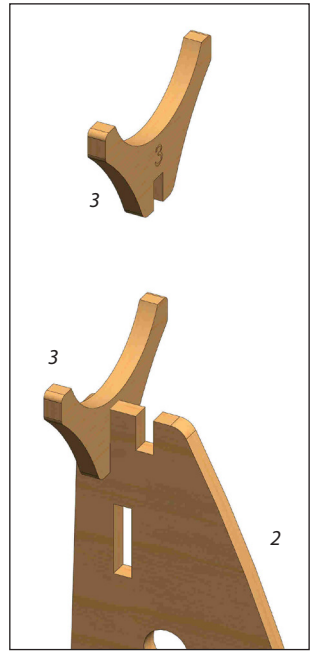

Figure 4
7. Find Parts 2, 3, and 4. Glue the two Part 3s on top of Part 2 (Figure 4).